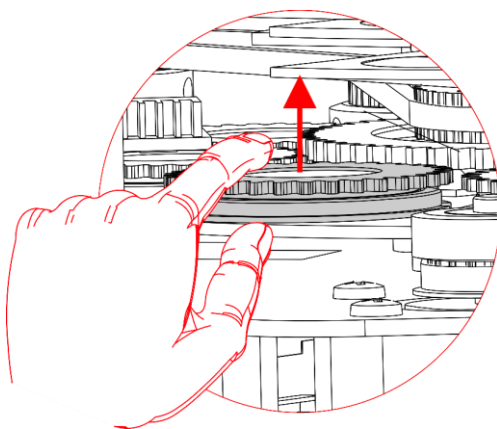
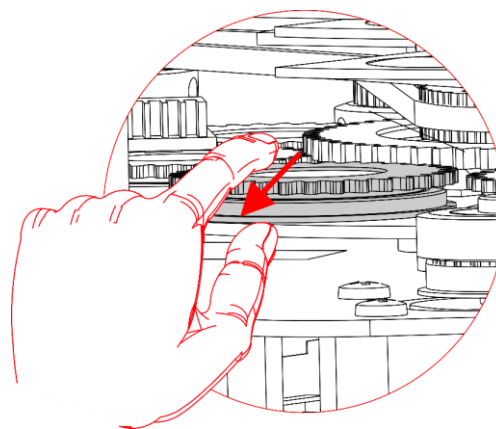

Fig. 13
Fig. 14
- 07) Gently lift the gobo holder a bit up and pull it out from the rotating gobo wheel, as shown on Fig. 13 and Fig. 14.